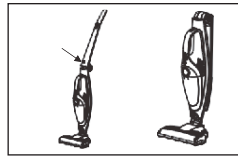

Fig. 2
- Holding the handle (1) lift the arm, and lock it. To fold the arm, press the button (4) - Fig. 2.